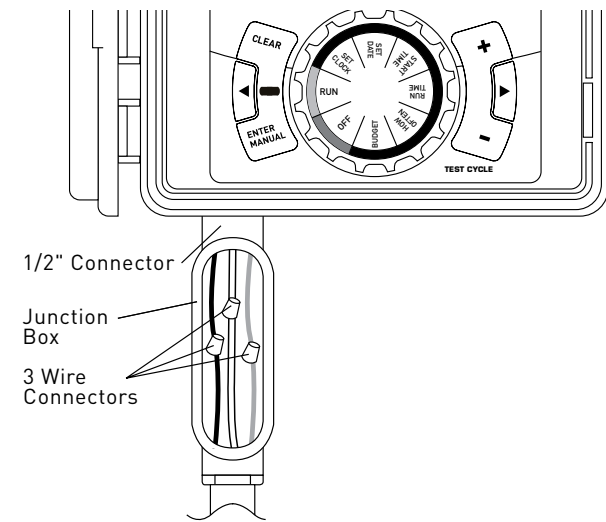

Figure 5: Using a Junction Box
Outdoor Locations – If a covered Ground Fault Interrupter (GFI) outlet is available, insert the power cord into the 110 volt outlet. If no outlet is available, the controller must have the wiring permanently installed (*see figure 5)
- Connect the junction box to the controller using a 1/2" nipple (Junction box and nipple not included). [See Figure 5] Connect the source power conduit to the entrance of the junction box, following all the appropriate codes.